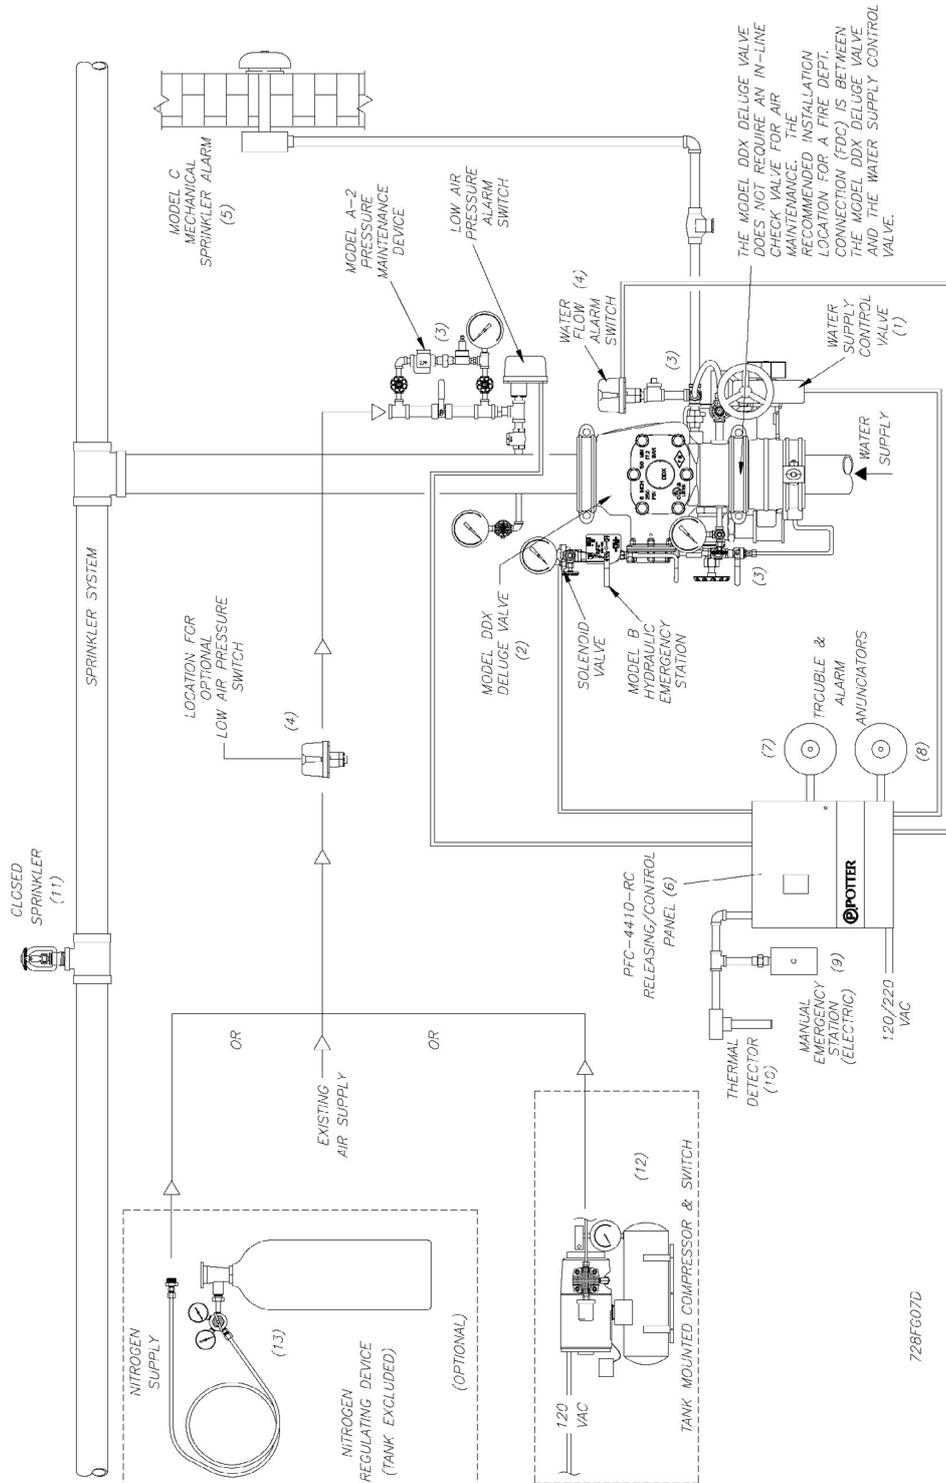

Fig.7
- Additional Equipment (Refer to Fig. 7)